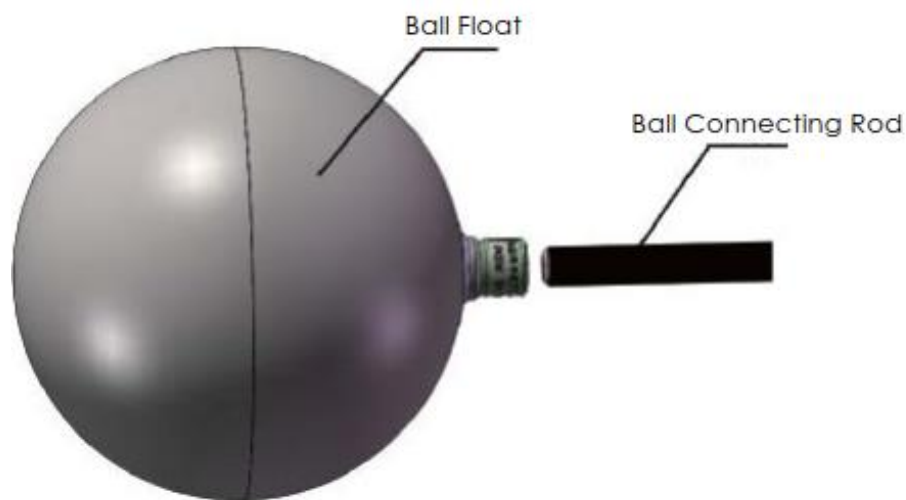

Figure 7 Ball Float Installation
6.3.2 For the installation of the 91 - type large-angle floating ball, the ball connecting rod is first screwed into the threaded hole at the front end of the swing arm, then the top thread is pushed into the annular groove at the end of the Rod , and finally tightened, as shown in Figure 7.